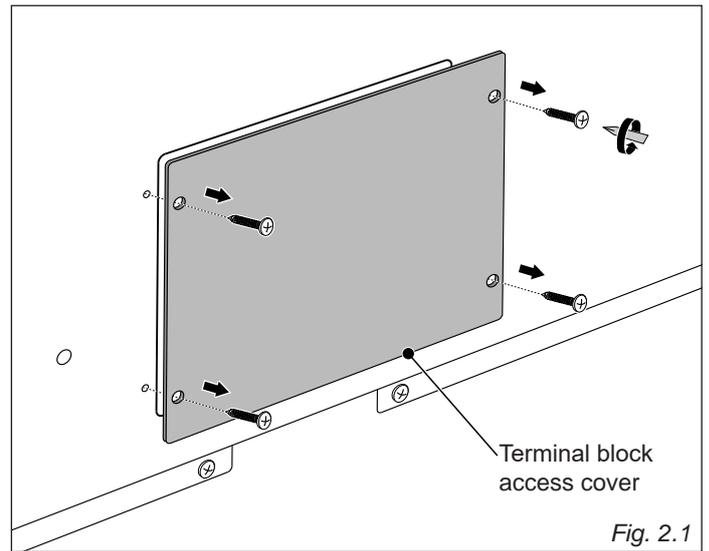

Fig. 2.1
- Units may be hard wired to the power supply. The installer must provide approved flexible aluminum conduit, 1/2" (13mm) trade size, maximum 6ft (1.8m) long. Locate the terminal block on the rear of the unit and remove access cover (fig. 2.1).
- Reinstall the Terminal Block cover (fig. 2.1).